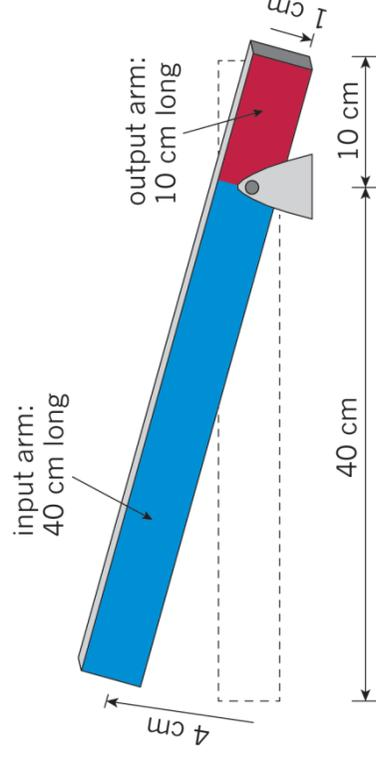

Figure 2: This lever has two arms, an input arm in blue and an output arm in red.
Look at the lever in Figure 2. This lever is making the output force bigger, so you can say that it is giving us a mechanical advantage. There are two "arms" on a lever: the **input arm** and the **output arm**. The lever below shows the input arm in blue and the output arm in red.
- Now you can confirm what you have already worked out. Use the values in Figure 2 to calculate the ratio of the length of the output arm to the length of the input arm.
- Use the values in Figure 2 to calculate the ratio of the output distance to the input distance.